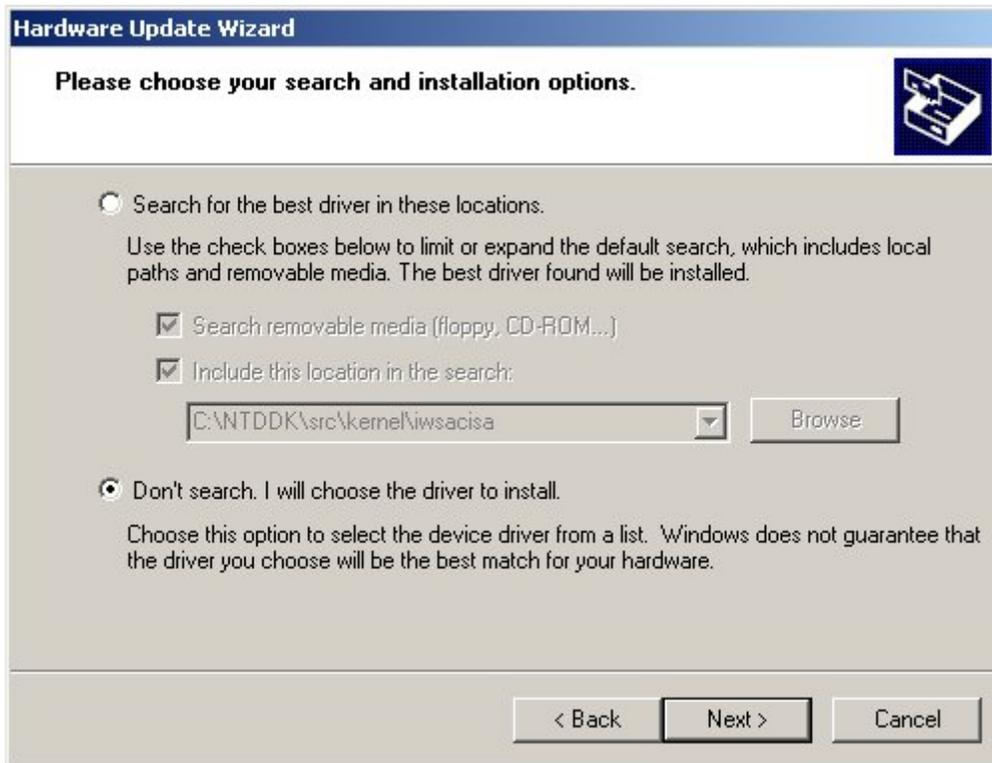

FIGURE 261. New Hardware Wizard completed screen
13. The window as in Figure 261 appears.